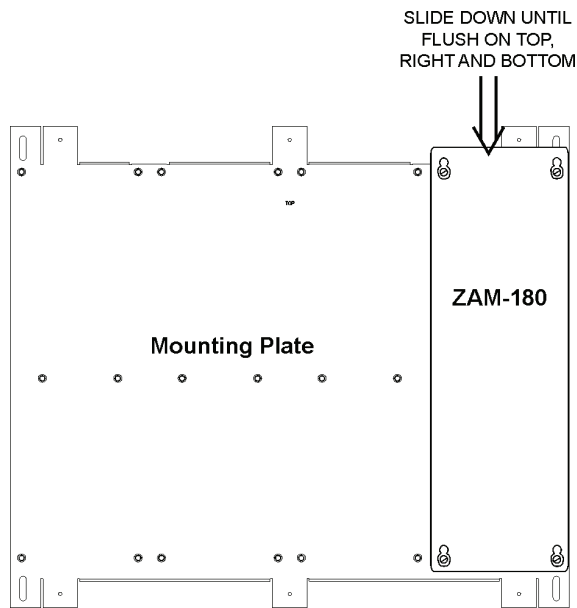

Figure 11
2. Place the ZAM-180 over the four screws on the Mounting Plate and slide it down or towards you to rest on the four screws. (Refer to Figure 11.) When the ZAM-180 is in the correct position it will be flush with the top, bottom and right side of the Mounting Plate.